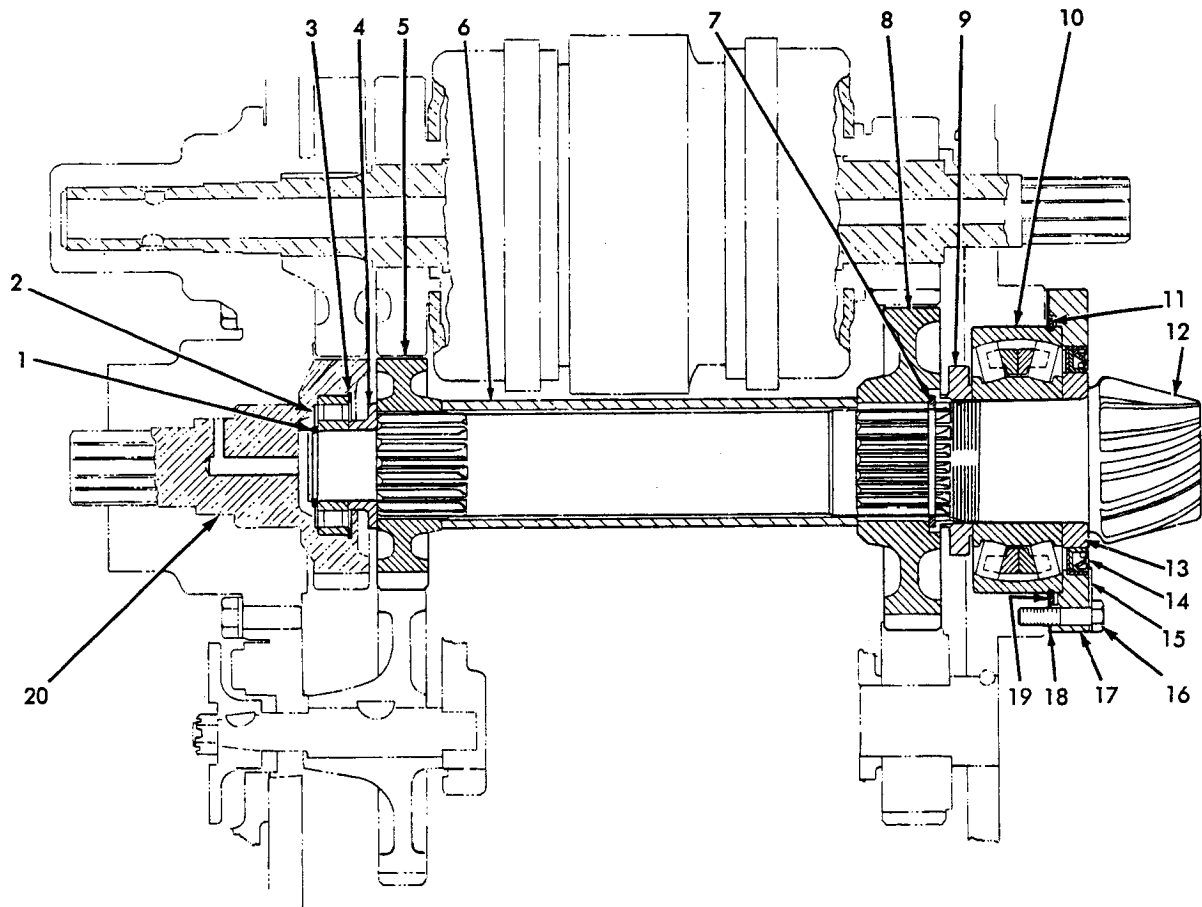

Fig. 31 -- Bevel Pinion Shaft
8. Use lifting tool shown in Fig. 30; remove top and bottom shaft assemblies. Remove bevel pinion shaft spacer and low speed (rear) gear, Fig. 31.
9. Remove bevel pinion shaft rear bearing retainer, Fig. 31, and bearing adjustment shims; tie shims to retainer. Remove rear bearing snap ring (11) and pinion depth adjustment shims; tie shims to snap ring. Remove shaft from case. If rear bearing must be replaced, remove snap ring, Fig. 31(7) and bearing retaining nut (9); use suitable press to remove rear bearing and spacer.